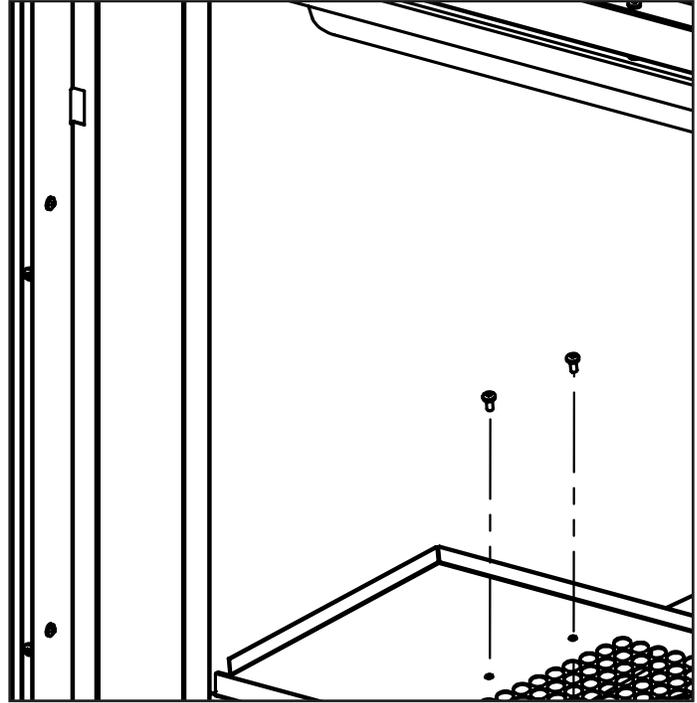

Figure 24. Media Tray Removal
4. Remove media tray by removing the four (4) T-20 screws (see Figure 24).